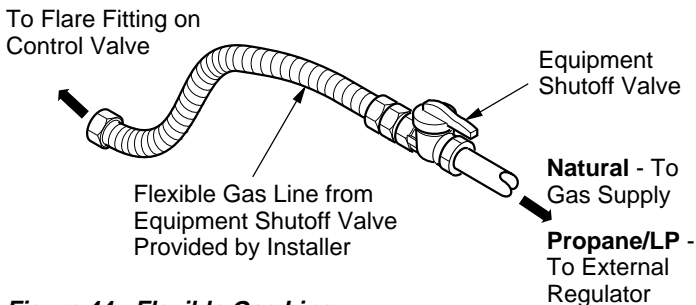

Figure 44 - Flexible Gas Line
2. Route flexible gas line (provided by installer, see Figure 44) from equipment shutoff valve to burner system. Route flexible gas supply line and attach to valve.